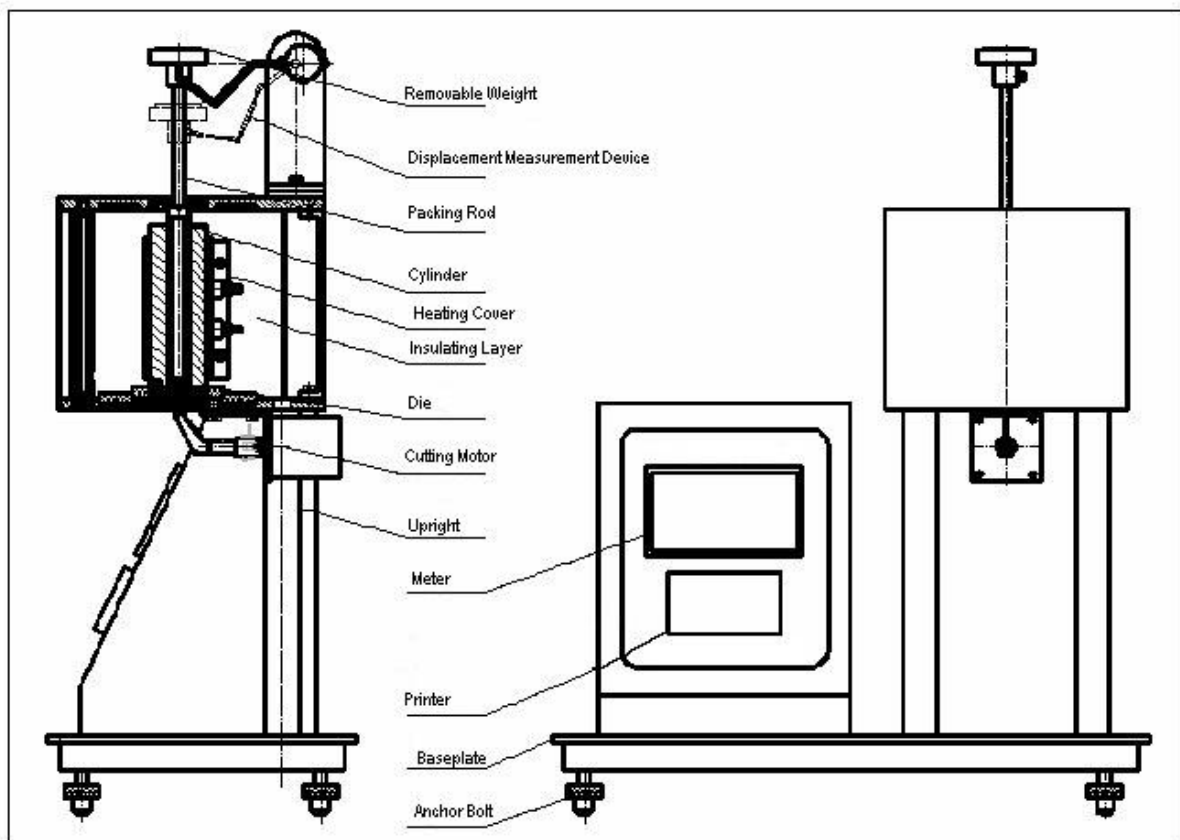

Fig 1
4.2 Furnace Chamber shown in fig.1. It consists of heating cover, cylinder, die, load